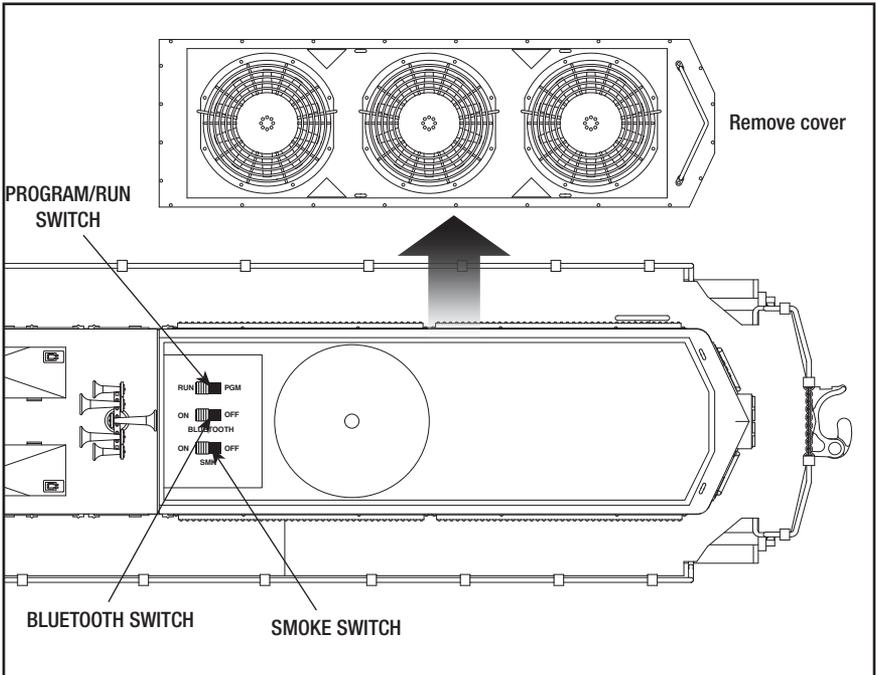

Figure 4. Switch locations
If you prefer to operate your locomotive without smoke, locate the smoke unit switch and slide it to the SMK OFF position. Refer to Figure 4 on page 10 for the location of the switch.
1. Slide the Program-Run switch on your locomotive to the PGM position. See Figure 4 on page 10.